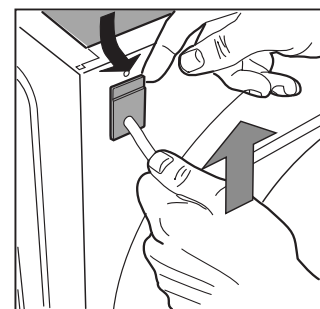

Fig. 16
- Remove the upper part of the cable slightly from the back panel of the appliance, pull the power supply cable upwards and take it out [fig. 16].